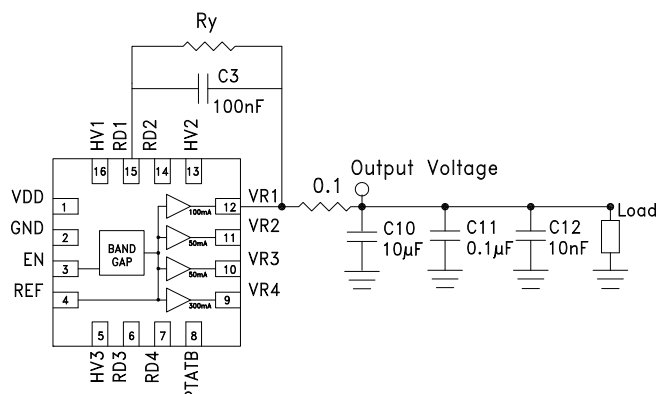

Figure 13. Recommended HMC1060LP3E configuration for supplying output voltage values less than default.[1]
The outputs of the HMC1060LP3E are configured to supply voltages less than the default values, down to 1.8 V minimum, by connecting a resistance (R_y in Figure 13) between pins VRx and RDx (where $x = 1, 2, 3, 4$). Figure 13 shows an example of configuring VR1 output. Other outputs are configured in exactly the same way (ie. R_y is added between VR2 & RD2, VR3 & RD3 and between VR4 & RD4).
- To set VR1 = VR2 = VR3 = 1.8 V in with PTAT Mode disabled, external resistance Ry = 21 kΩ shown in Figure 13 is required.